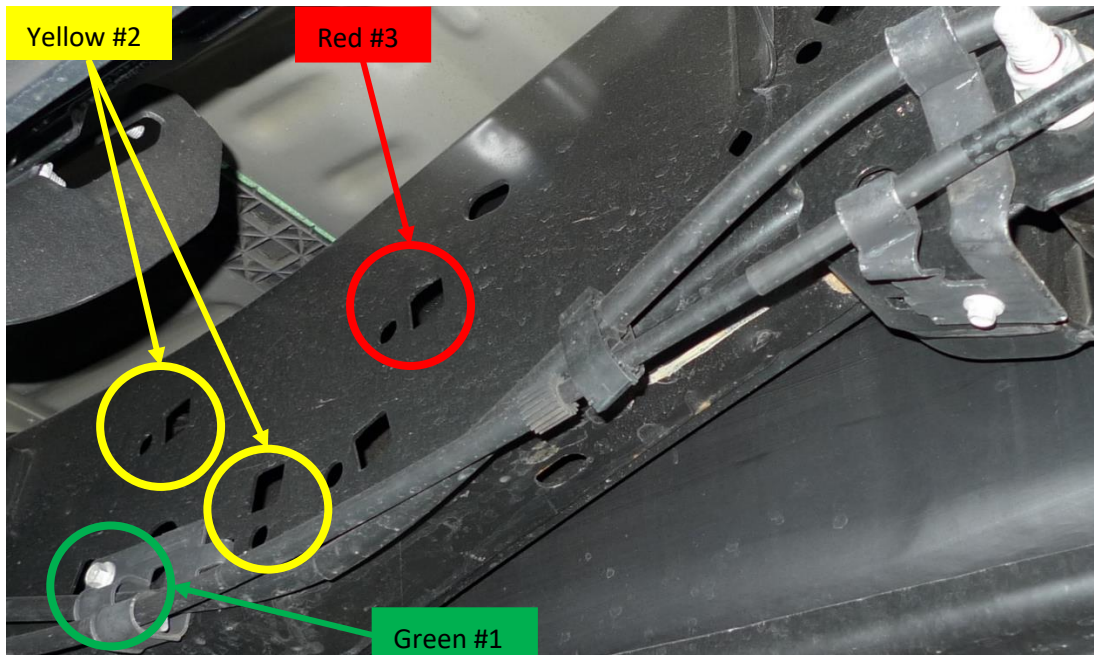

Figure 29 – Main Horn Brackets Mounting Holes in Frame
- 10.9.2. Locate all mounting holes shown circled in Figure 29 above.
- 10.9.3. Remove factory frame clip behind Parking Cable Bracket, as shown circled (Green #1) in Figure 29 above.
10.10.1. Locate 2 holes in frame shown in Figure 29 below.